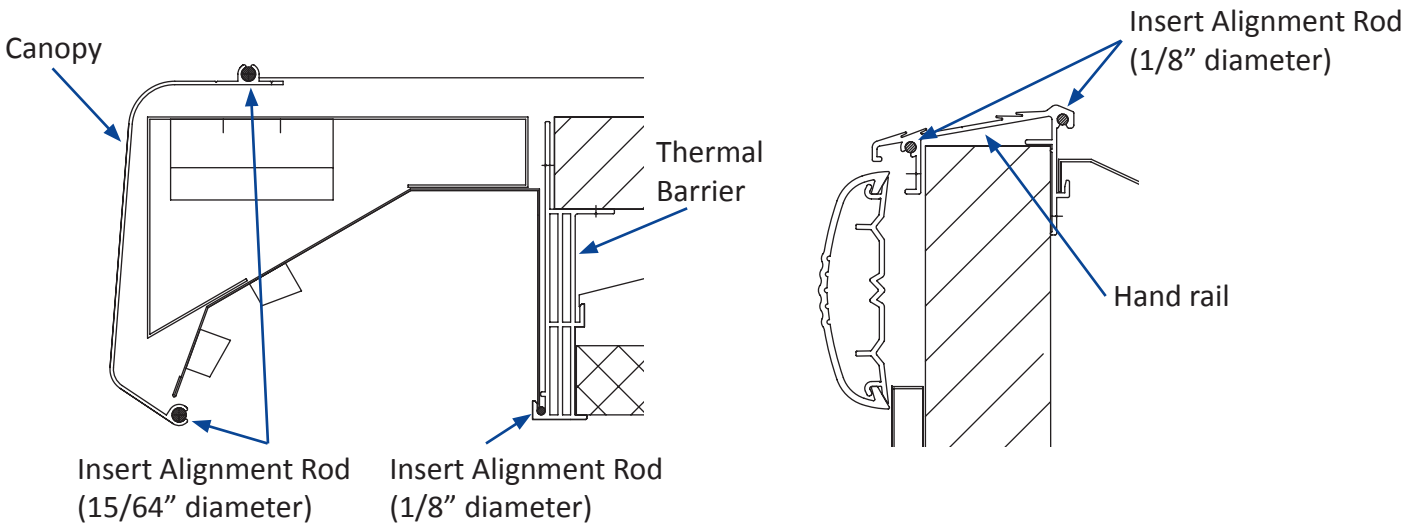

Fig 4. Alignment Rod Location
- Insert the alignment rod (1/8in diameter) through holes in handrail, thermal barrier and the alignment rod (15/64 in diameter) through holes in canopy as shown Fig. 4